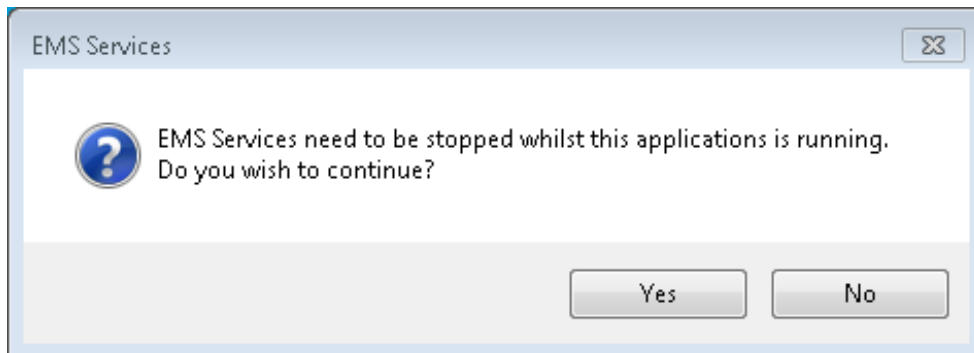

Figure 110
- The **EMS Services** window is displayed, stating that services will be stopped while **EMSConfig** is running. See Figure 110:
- If the host machine does not have **User Account Control** enabled, the **User Account Control** window will not be displayed and the procedure will go straight to the **EMS Services** window which states that EMS Services will be stopped whilst **EMSConfig** is running. See Figure 110 above.